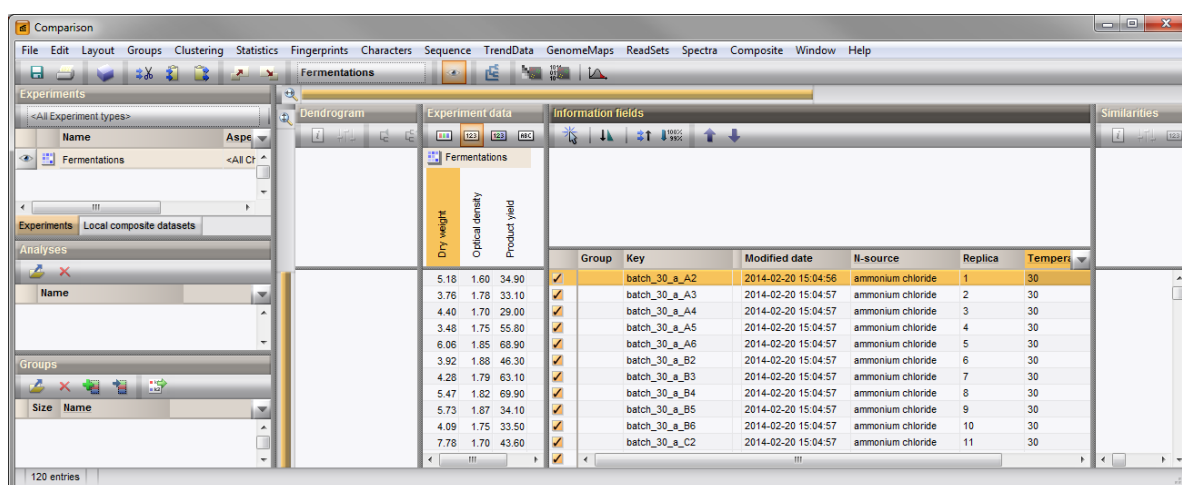

Figure 4: The *Comparison* window.
- Select **Characters** > **Show values** () to show the corresponding character values for all entries in the comparison (see Figure 4).